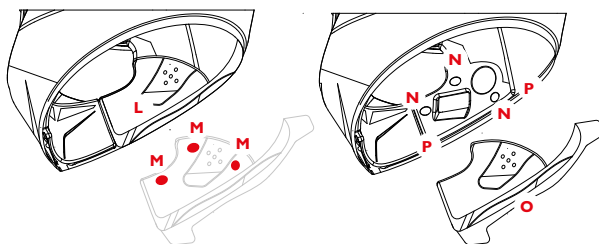

FIGURE 9
**Removing the pads** — Figure 9
**Assembly** — Figure 9